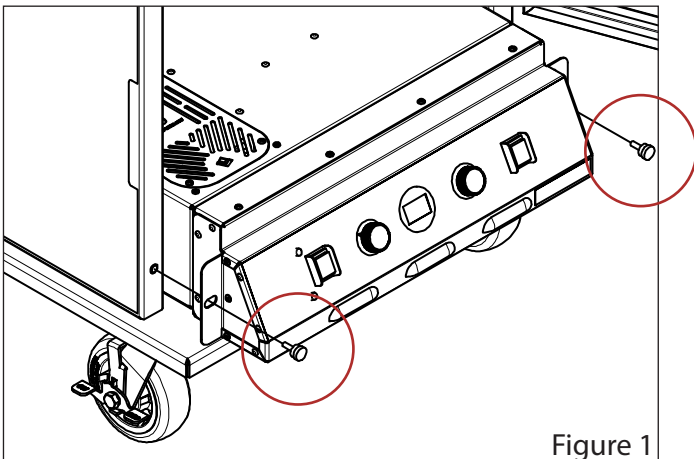

Figure 1
2. The heat unit can be removed from the cabinet by removing the 1/4"-20 x 3/4" thumb screws and sliding unit out. (One thumb screw on each side of unit - Figure 1)